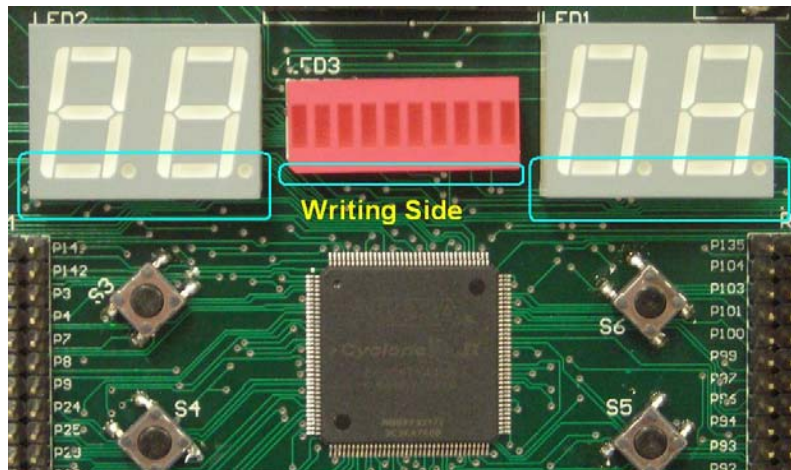

Figure 2: Positioning the LED pack and 7-segment LEDs.
3. Solder the 10-LED pack in position LED3. Position the package such that the writing on the case faces the FPGA (see Figure 2).
4. Solder on the two 7-segment LED packs in positions LED1 and LED2 with decimal point towards FPGA. See Figure 2 proper orientation.